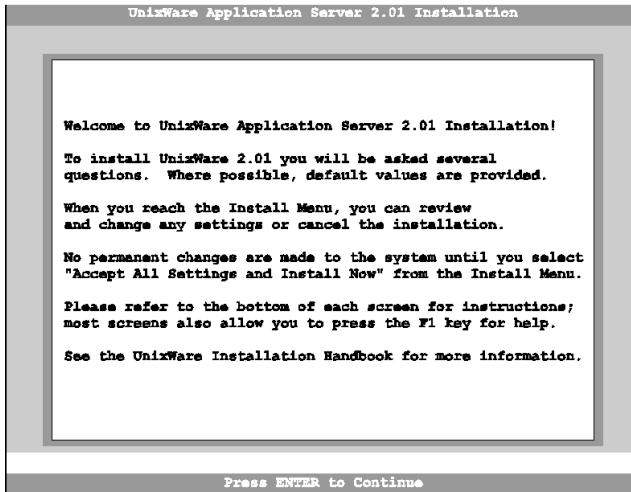

figure 11-1 UnixWare Installation
1. Insert the “SCO UNIXWARE INSTALLATION DISKETTE” into the floppy drive and turn on the computer. A screen similar to the following will be displayed (see figure 11-1).